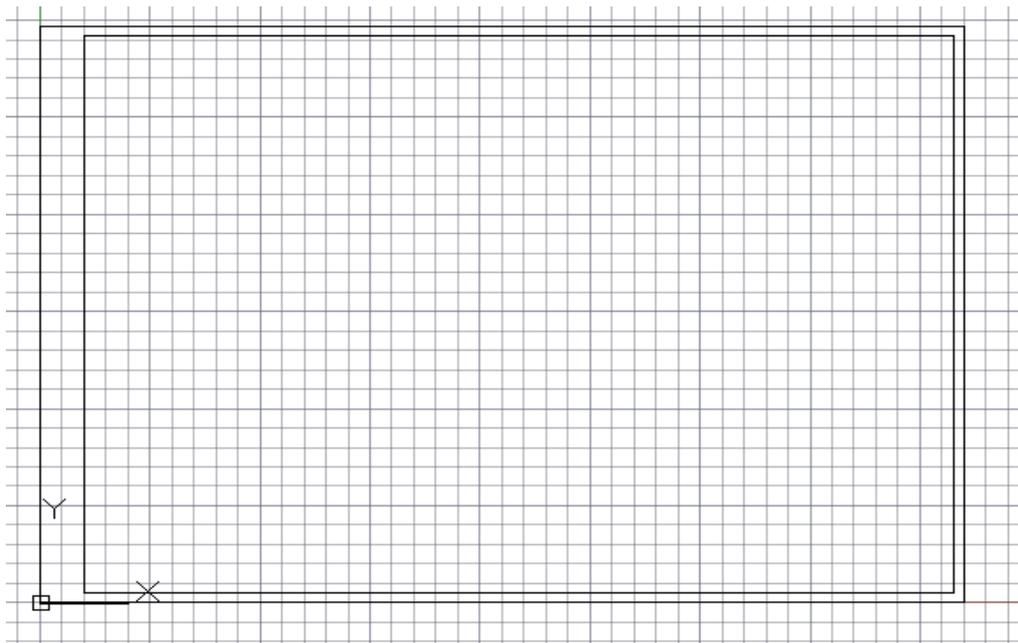
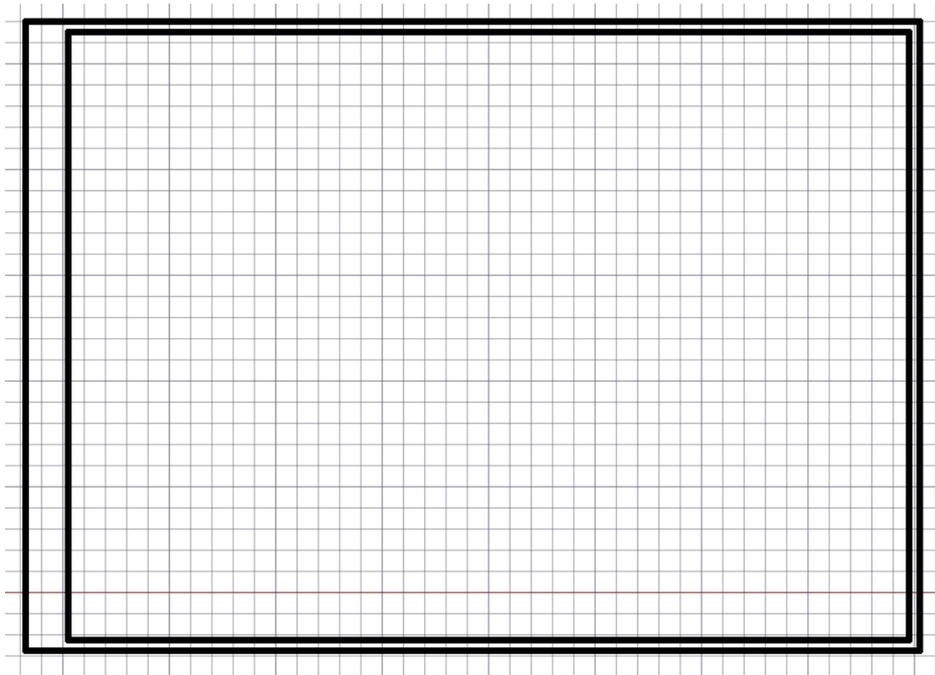

Figure 2.3 – Inside frame
Figure 2.4 – Final version of the sheet and drawing frame
2.2.4 Similar to how the sheet drawing was produced, we will draw the frame and border of the title block of the drawing. To do this, inside the sheet drawing, select the Rectangle element. Coordinate of the shambles (20.5), length 395 mm, width 287 mm. Then, similarly, we will build a table to fill in the main inscriptions of the drawing (figure 2.3). We will also press the thickness of the A3 sheet and the inner frame equal to 0.5 mm (figure 2.4).